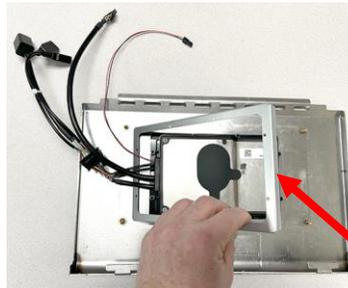

Figure 15
18. Remove the controller bracket (see Figure 15).